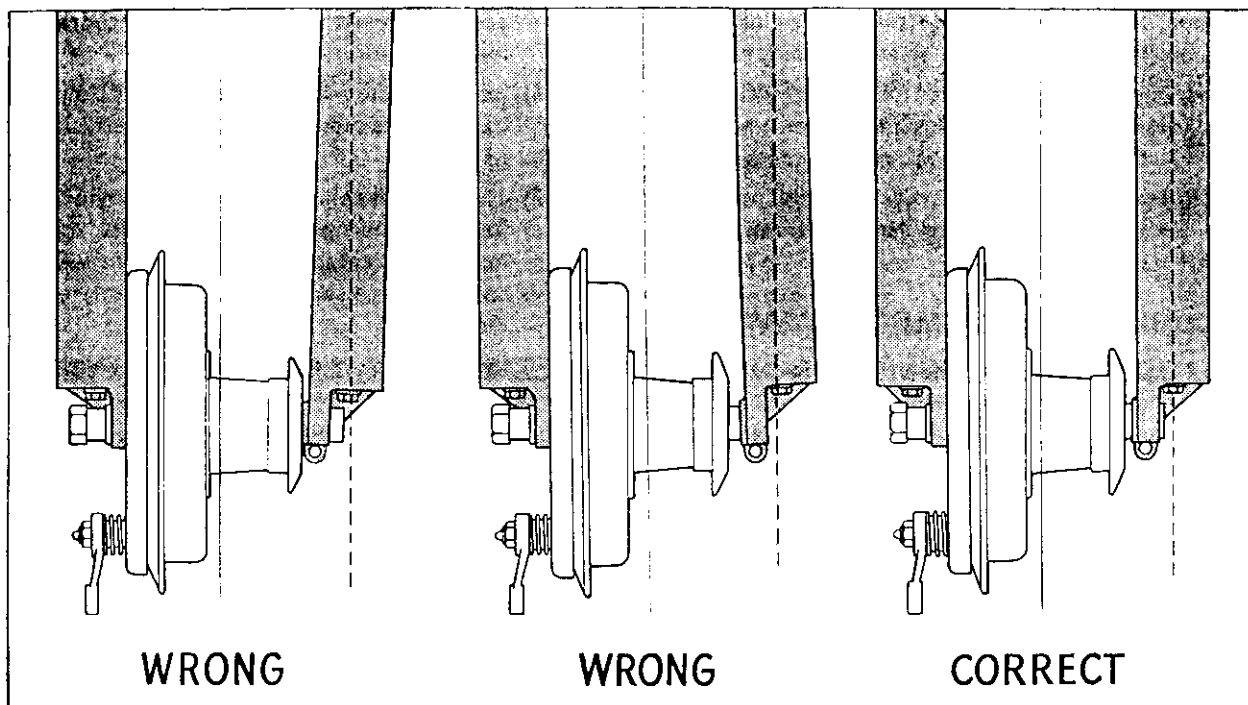

Fig. 3. Correct Alignment of Front Wheel in Forks.
- (6) Swing the stand back into position and tighten the securing nut.
- (7) With the pinch bolt loose ensure that the left-hand fork leg can slide on the spindle sleeve. Sit astride the machine, apply the front brake and work the fork up and down five or six times. This positions the fork leg on the spindle, and prevents any binding between the stanchions and the cover tubes. Tighten up the spindle pinch bolt. If this procedure is not adopted, the fork action will be stiff and the members distorted. (See Fig. 3).